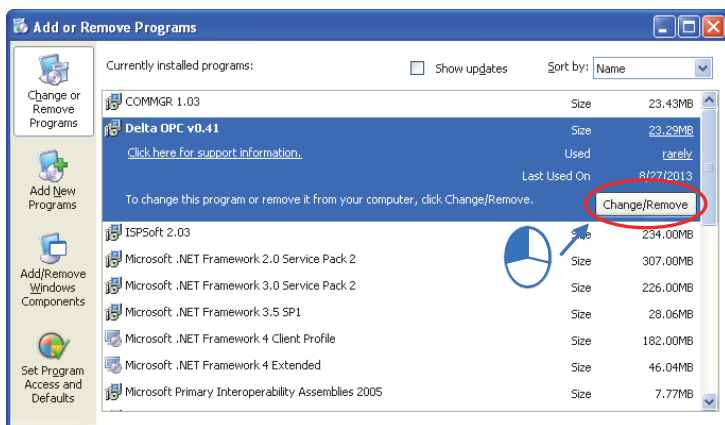

Figure 1-7 Uninstalling Delta OPC
(1) There are two methods of uninstalling Delta OPC.
- Method 1: Open the **Control Panel** window, and click **Add or Remove Programs**. In the **Currently installed programs** box, click **Delta OPC vx.xx**, and then click **Remove**. x.xx denotes the version of Delta OPC, as shown in figure 1-7.